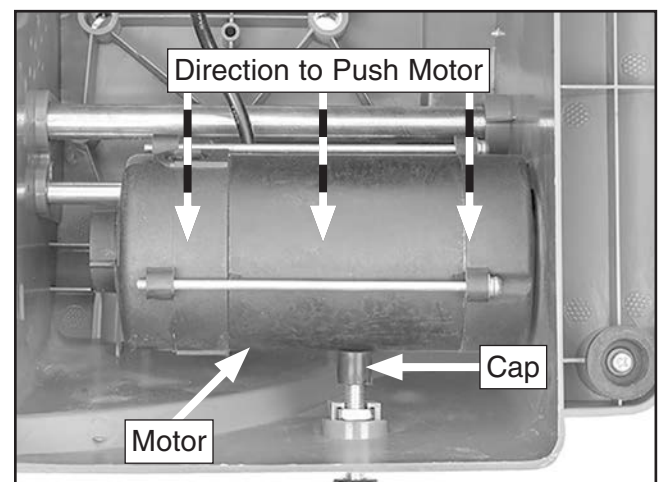

Figure 8. Torque adjustment knob tightened so cap contacts motor.
3. Push motor down as far as it will go (see **Figure 8**).
4. Tighten torque adjustment knob until cap on shaft contacts motor (see **Figure 8**).